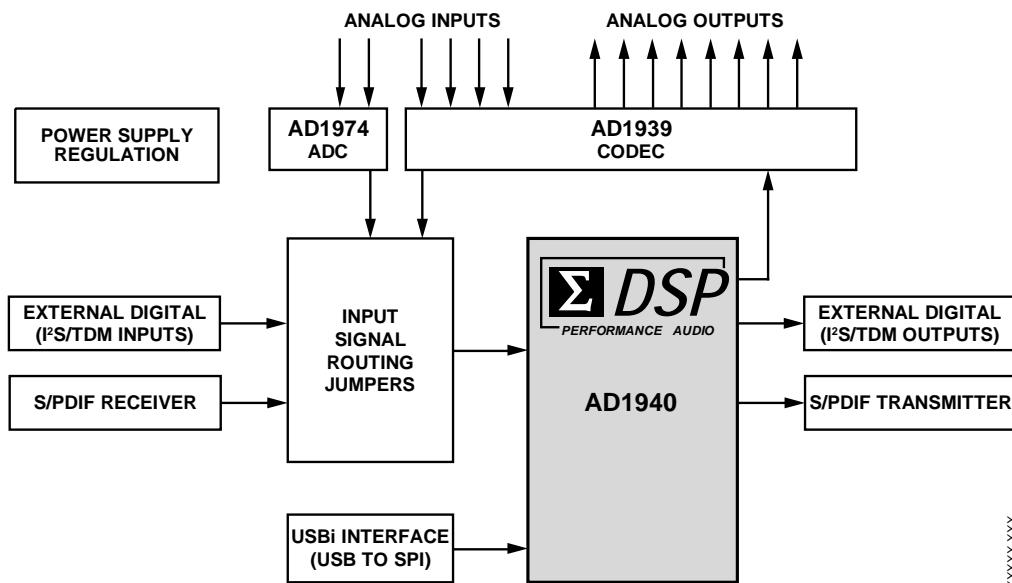

Figure 1. Functional Block Diagram
4. Plug the USBI into the PC's USB port using the included mini USB cable. Plug in the USBI into the control port J2 on the eval board (marked yellow on Figure 1).
7. Connect the audio source to the ANALOG INPUT CHANNEL 0-1 jack J15 (marked blue in Figure 1) on the top of the board, using a 1/8" cable.
8. Connect the ANALOG OUTPUT CHANNEL 0-1 jack J18 (marked green in Figure 1) to your active speakers or headphones.